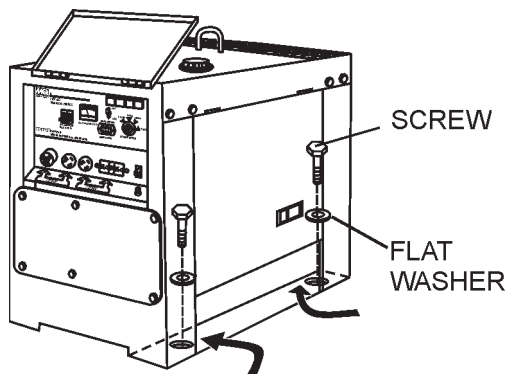

Figure 12. Inserting Bolts/Washers
- Locate the four bolt holes on the underside of the cabinet near the front and rear of the machine. Reach into the cabinet and place a bolt and washer through the cabinet floor through each hole (Figure 12). A flashlight might be necessary to find the bolt holes in the cabinet floor.